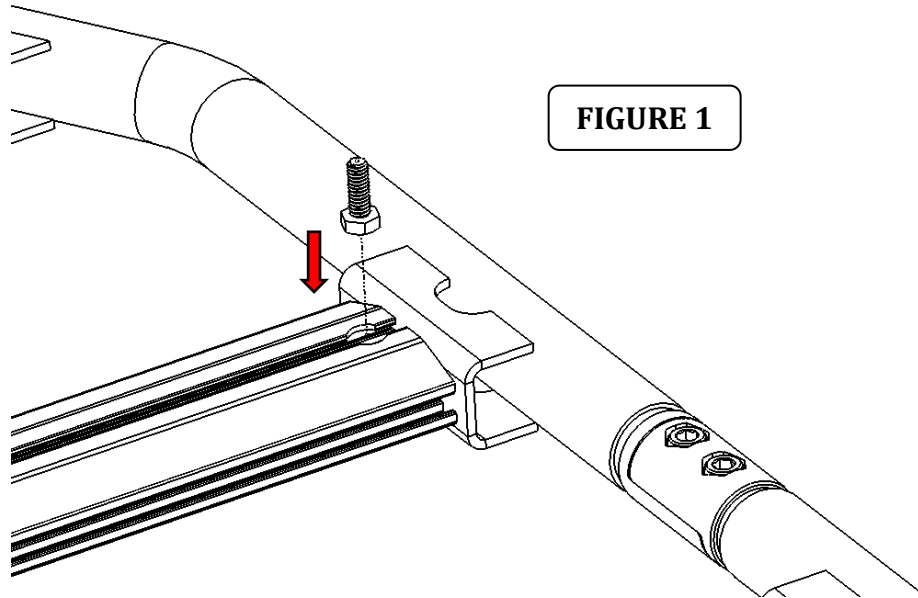

FIGURE 1
Step-1 Install (1) 1/4" x 3/4" hex bolt for every rail bracket in the channel of every crossbar that will be facing up the rail plates. (Fig 1).